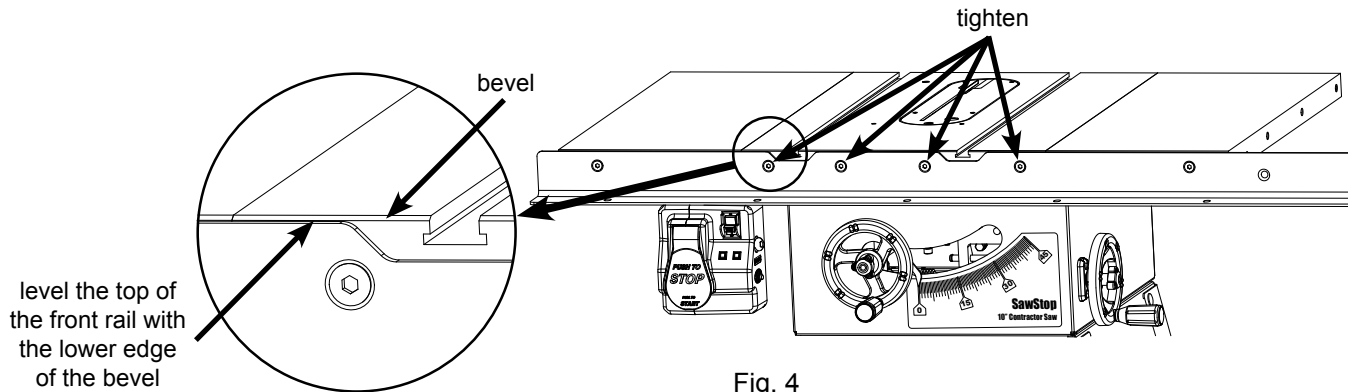

Fig. 4
4. The holes in the front edge of the table and extension wings are slightly larger than the bolts they receive to allow you to level the front rail and extension wings to the table top. Align the top of the front rail with the lower edge of the bevel on the front edge of the table top (see Fig. 4). Use a 5 mm hex key and a 13 mm wrench to fully tighten the nuts on the back of the four bolts that extend through the table top. Do not tighten the nuts on the bolts that extend through the extension wings.